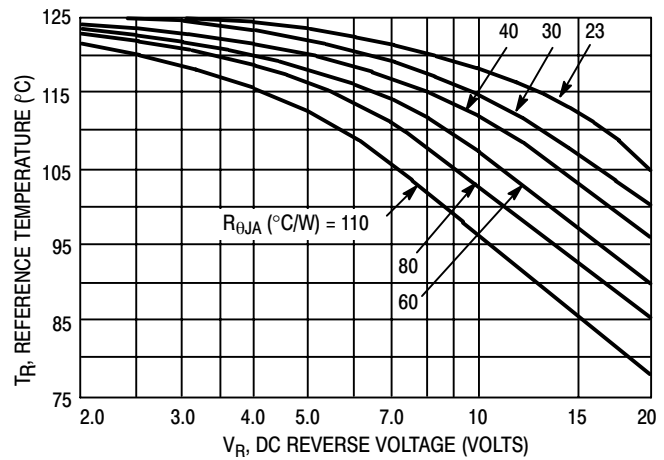

Figure 1. Maximum Reference Temperature
Figures 1, 2, and 3 permit easier use of equation (1) by taking reverse power dissipation and thermal runaway into consideration. The figures solve for a reference temperature as determined by equation (2).
Inspection of equations (2) and (3) reveals that  $T_R$  is the ambient temperature at which thermal runaway occurs or where  $T_J = 125^\circ\text{C}$ , when forward power is zero. The transition from one boundary condition to the other is evident on the curves of Figures 1, 2, and 3 as a difference in the rate of change of the slope in the vicinity of 115°C. The data of Figures 1, 2, and 3 is based upon dc conditions. For use in common rectifier circuits, Table 1 indicates suggested factors for an equivalent dc voltage to use for conservative design, that is: